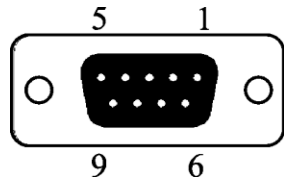

Fig. 4-1
- DB-9 pin socket of serial panel is shown in Fig. 4-1